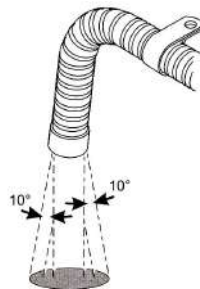

Fig.27
4.6.6 When the heat is working, the exhaust pipe is at high temperature. In installation, make sure to install it in far distance from plastic parts or other objects with poor thermal resistance of the vehicle body. The exhaust pipe shall be properly fixed. The exhaust vent shall be downwards, perpendicular to road surface with an angle of $90^{\circ} \pm 10^{\circ}$. To ensure such an angle, the fixing clamp for the exhaust pipe shall be within 150mm from the pipe end. (Fig. 27)